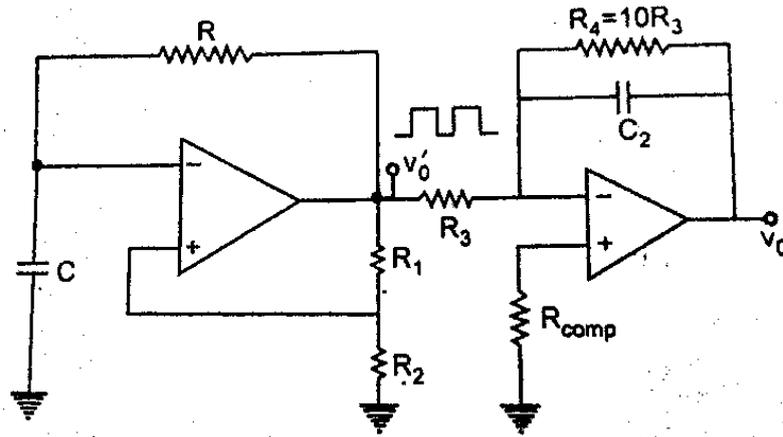

Fig. 3.36 Triangular Waveform Generator
14. With diagram explain the following op- amp applications of triangular wave generation. (May-17, 18) (13)
- A triangular wave can be simply obtained by integrating a square wave as shown in Fig.3.36.